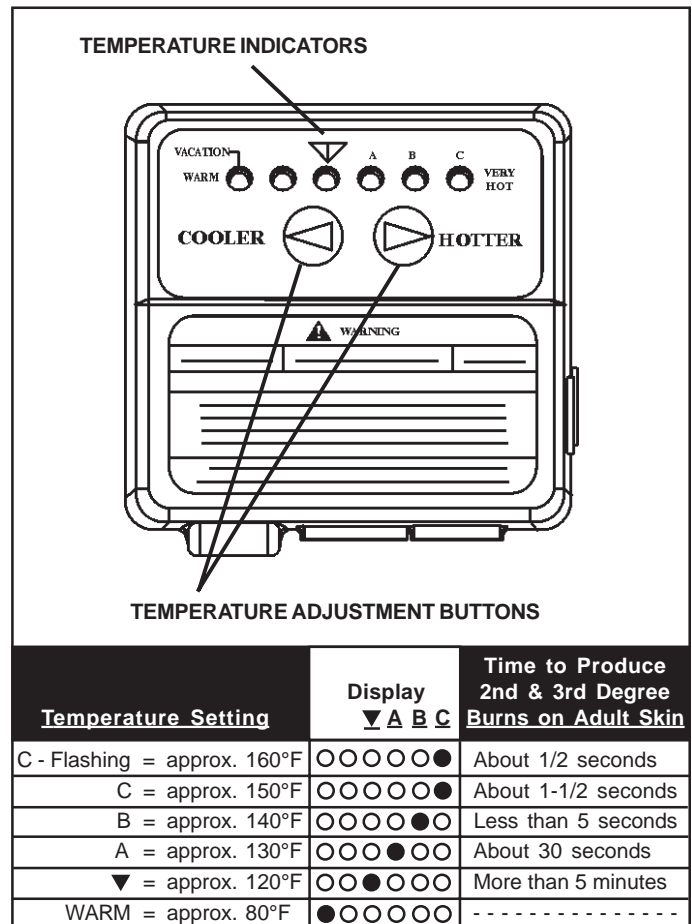

FIGURE 10
Figure 10 shows the approximate water temperatures produced at various thermostat settings. Short repeated heating cycles caused by small hot water uses can cause temperatures at the point of use to exceed the thermostat setting by up to 30°F. If you experience this type of use you should consider using lower temperature settings to reduce scald hazards.
1. "Wake Up" the temperature indicators by holding down both the "COOLER" and "HOTTER" temperature adjustment buttons at the same time for one second (see Figure 10). One or two of the temperature indicators will light up. These indicators will only remain on for 30 seconds if no further buttons are pressed. After 30 seconds the control will go back to "Sleep" mode.